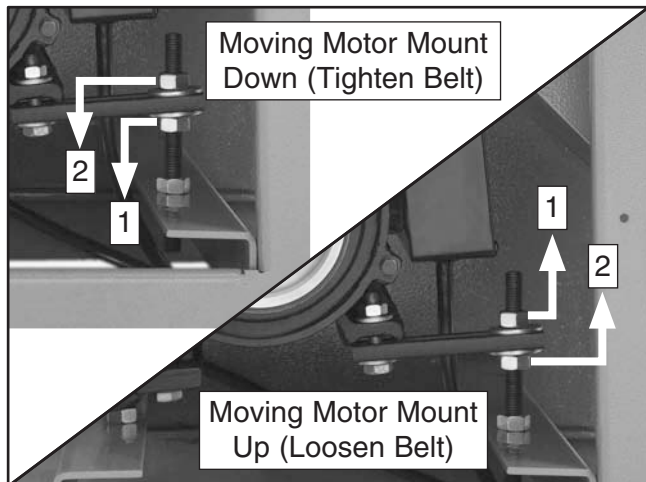

Figure 66. Direction of motor mount and hex nut movement to adjust belt tension.
3. Rotate both hex nuts in the order that you want to move the motor mount, following the sequential order shown in **Figure 66**. (Essentially you move one hex nut out of the way, then use the other to push the motor mount.)